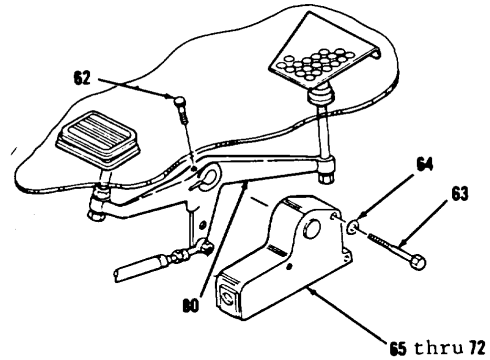
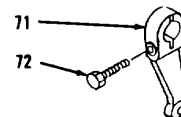

Figure 3-161.
Figure 3-163.
49. Remove bolt (62, Figure 3-161).
50. Remove three bolts (63) and washers (64).
51. Pull items 65 thru 72 as an assembly away from mounting bracket and at the same time pull lever (80) away from items 65 thru 72 as an assembly.
52. Remove items 65 thru 72 as an assembly.
53. Remove shaft (67) and keys (68 and 69).
54. Remove items 71 and 72 as an assembly.
55. Remove bolt (71) from lever (72, Figure 3-163).